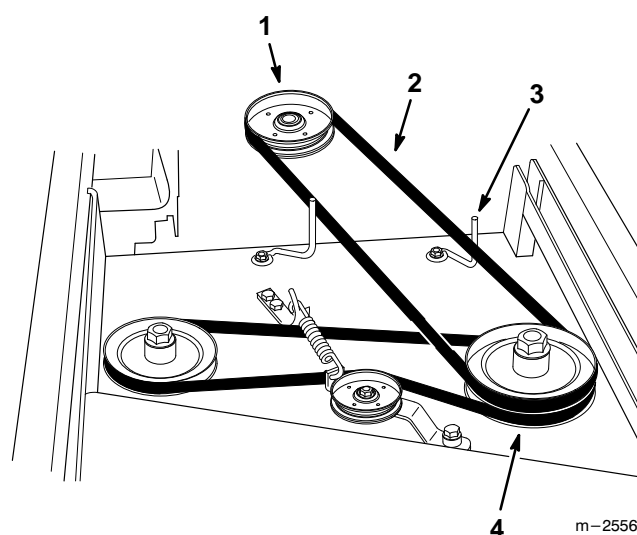

Figure 4
2. Install the drive belt around the drive pulley on the traction unit and the upper groove of the left spindle pulley. The belt must be between the belt guides (Fig. 4).